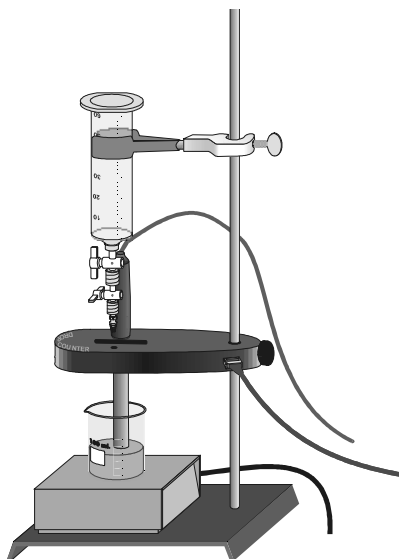

Figure 2
3. Lower the Drop Counter plate onto a ring stand and clamp it into position (see Figure 2).